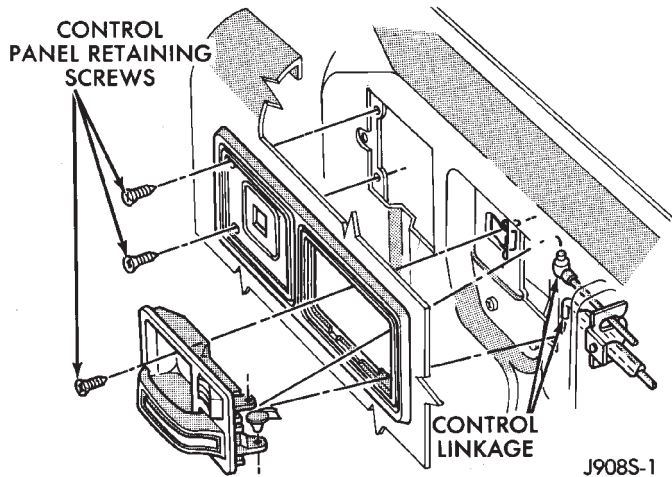

Fig. 4 Power Window Control Panel Removal/Installation
(1) Remove the interior door latch release assembly and control panel retaining screws (Fig. 4).